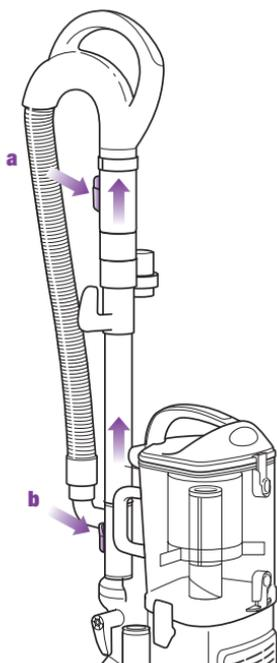

Fig. 13
- 2 Press the handle release button (a) and pull the handle up or press the extension wand release button (b) and pull the extension wand up. (Fig. 13)